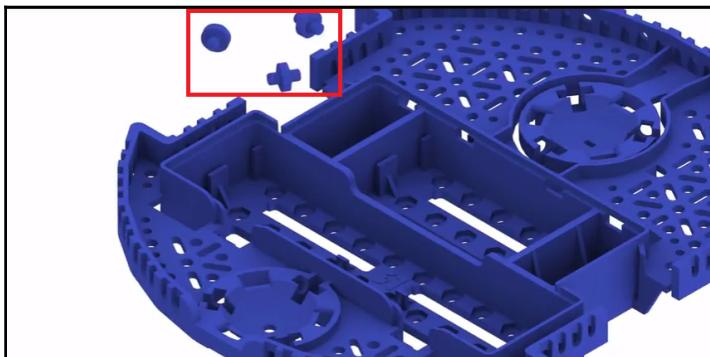

Figure 6.5: Placing the three rollers. Image courtesy of Pololu—<https://www.pololu.com>
1. Place the three rollers for the rear ball caster into the cut-outs in the chassis (*Figure 6.5*):